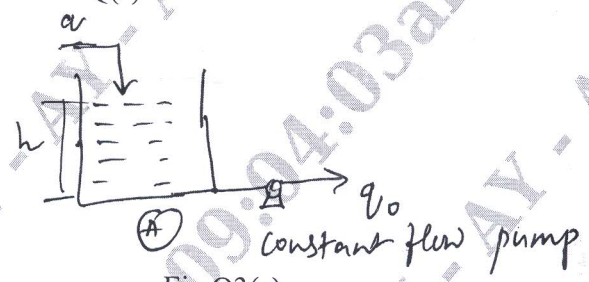

Fig.Q3(a)
- 3 a. Derive the transfer function  $\frac{H(s)}{Q(s)}$  for the liquid level system shown in the Fig.Q3(a).